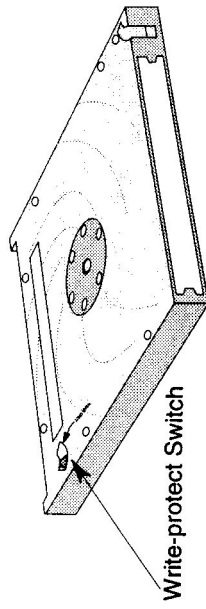

Figure 16. Locating the Write-protect Switch
1. Turn the cartridge over, as shown in Figure 16, and locate the silver write-protect switch.